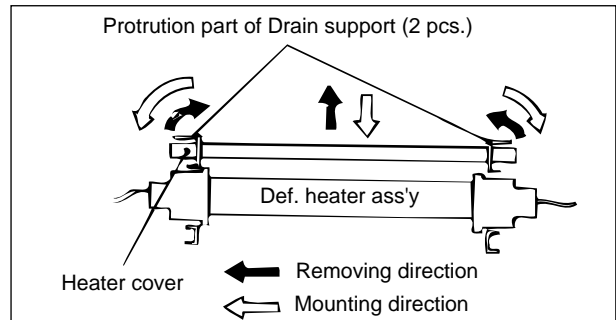

Fig. A-25
2. Raise the protrusion part of Drain support AL (Fig. A-25). Then remove Heater cover.